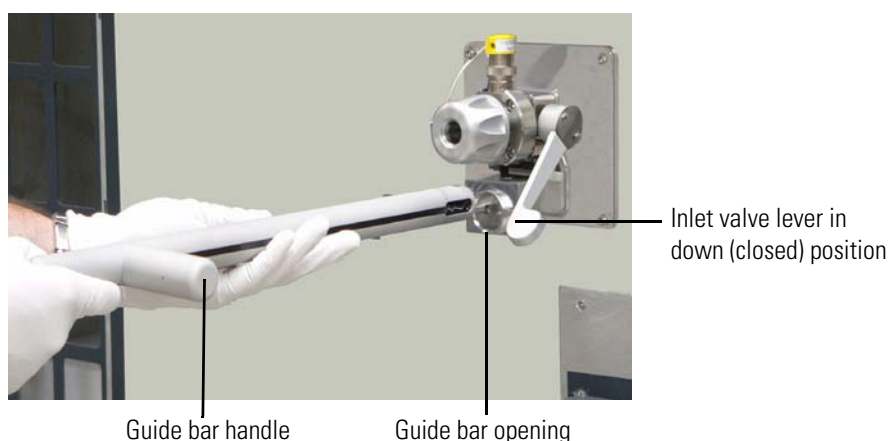

Figure 3-12. Guide bar being inserted into guide bar opening^a
3. Place the guide bar handle (item 13 in Figure 3-11 on page 3-23) to the 3 o'clock position (Figure 3-12 on page 3-23).
4. Insert the guide bar (item 9 in Figure 3-11) into the guide bar opening in the back of the ETD Module (Figure 3-12).